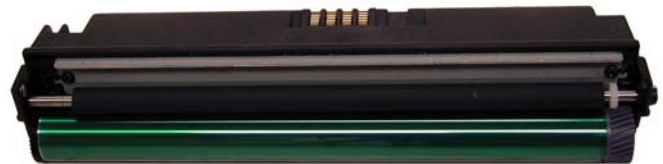

Figure 37
35) Coat the OPC drum with your preferred lubricant and install the drum. See **Figure 37**